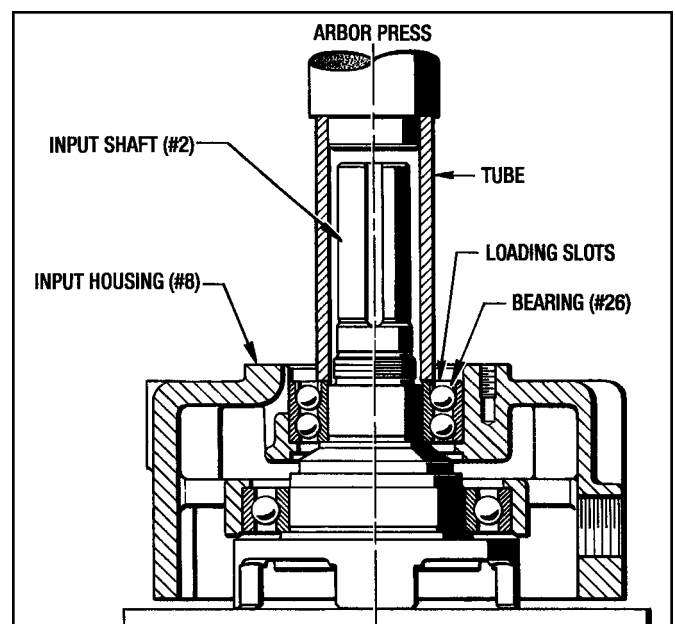

Figure 9.5 - Pressing Bearing (#26) into Input housing
- Set the Input Housing Subassembly into an Arbor Press as shown in **Figure 9.5**. Using an appropriate size tube, press on the inner race of Bearing (#26) until it bottoms out. (**Do not press on the bearing cage of the outer race**)